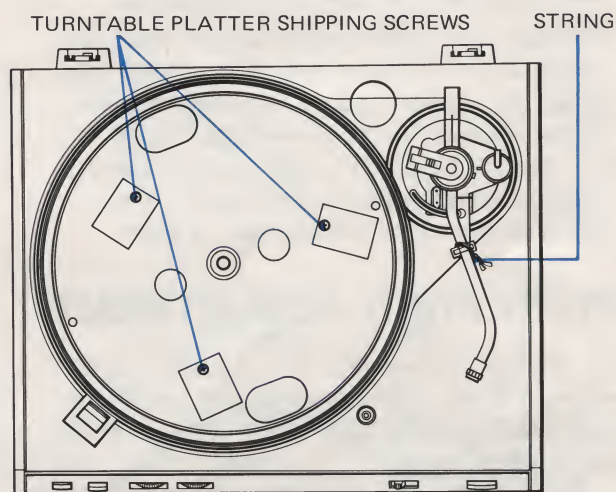

Fig. 1
- 2 Remove the three screws that hold the turntable platter in place during shipment. (Fig. 1)
- 4 Unfasten the string or "twist tab" wire that secures the tone arm during shipment. (Fig. 1)